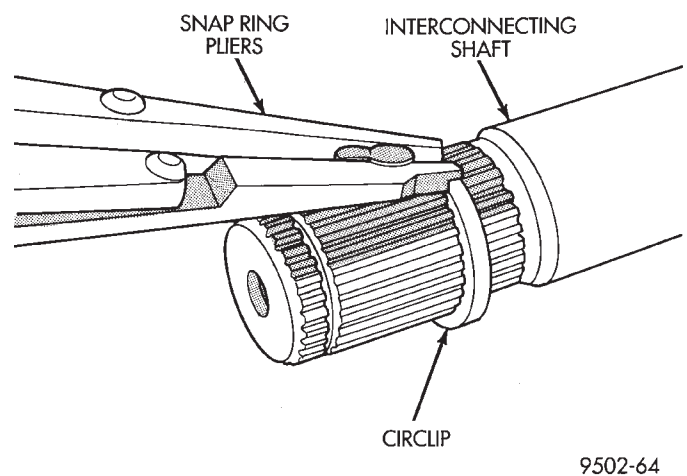

Fig. 43 Circlip Removal from Interconnecting Shaft
(5) Remove large circlip (Fig. 43) from the interconnecting shaft before attempting to remove outer C/V joint sealing boot.